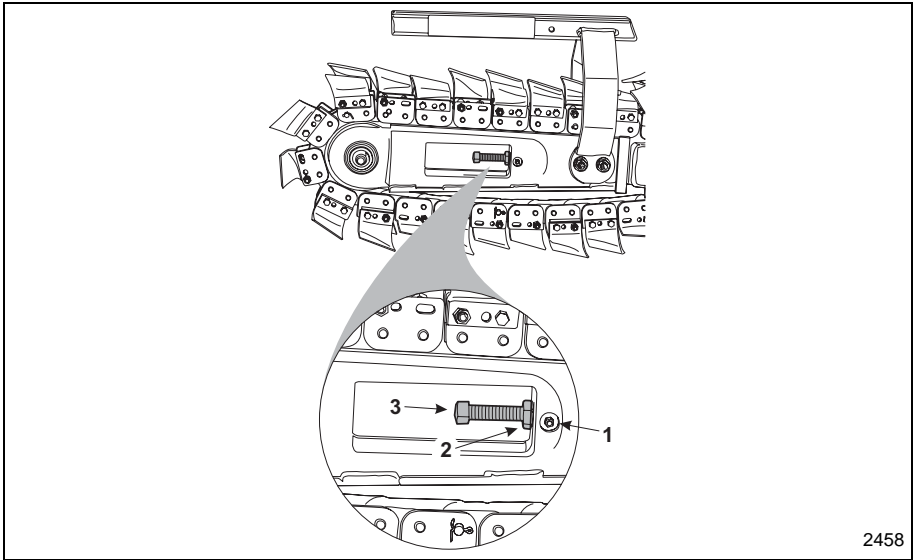

Figure 4-19 Chain Tension Adjustment
1. Loosen the adjustment bolt lock nut (Item 2, **Figure 4-19**)
2. Rotate the chain adjustment bolt (Item 3, **Figure 4-19**) to increase or decrease pressure on the boom until the proper chain sag is measured.
4. On a monthly basis, lubricate the adjustment bolt using the grease zerk (Item 1, **Figure 4-19**).